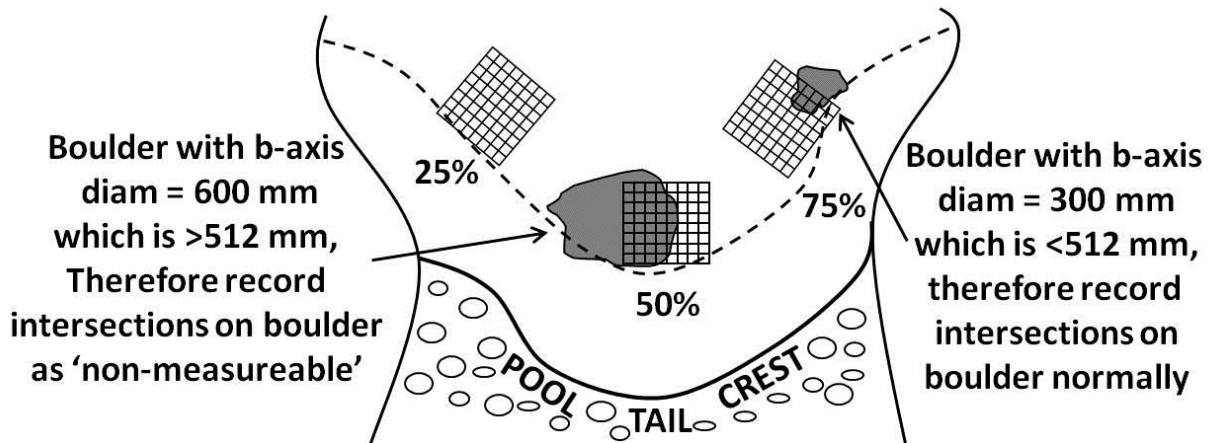

Figure 16: Record intersections of the fines grid that land on boulders ≥ 512 mm (b-axis diam.) as 'non-measurable'.
- If the fines grid lands on a boulder (≥ 512 mm b-axis diameter), record intersections on the boulder as 'non-measurable' (Figure 16).